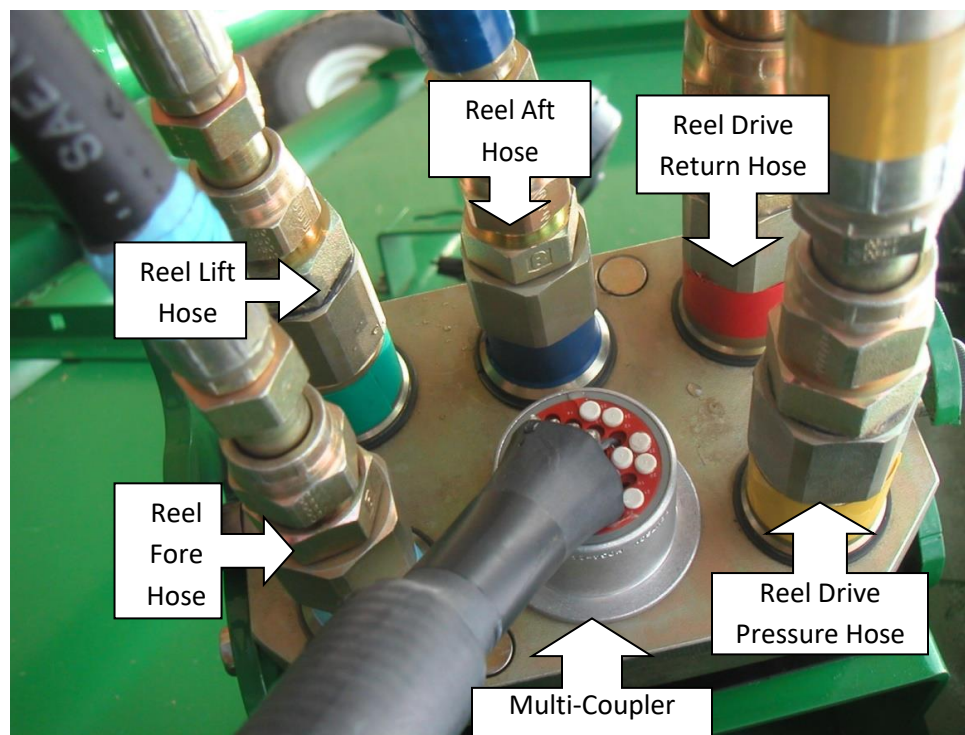

Figure 1
Refer to Figure 1
- 1.2 Using the below labels, identify all hoses going to the Multi Coupler block to reduce any future confusion (**See Figure 1**).